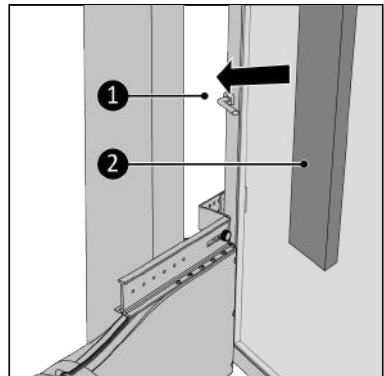

Figure 93.
17. Fill up the open spaces (Figure 93, pos. 1) with the delivered isolation foam (Figure 93, pos. 2), cut the foam if necessary\*.